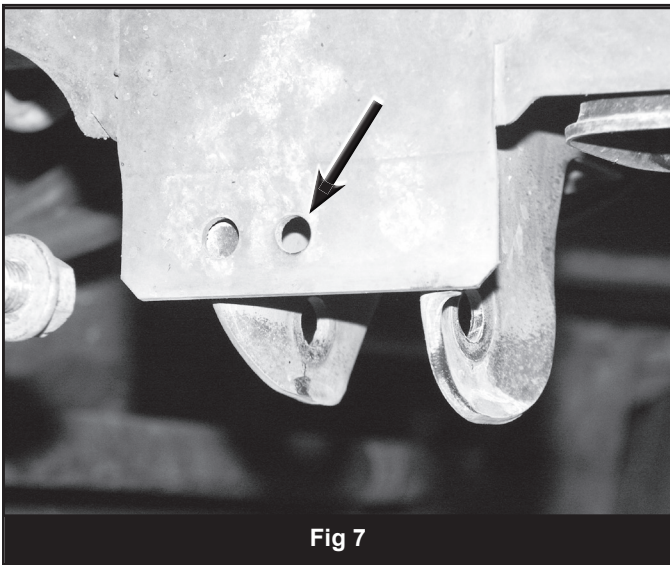

Fig 7
16. Locate the existing center hole in the outside of the OE track bar mount on the driver's side of the vehicle. Drill hole this hole out to 1/2" (Fig 7).